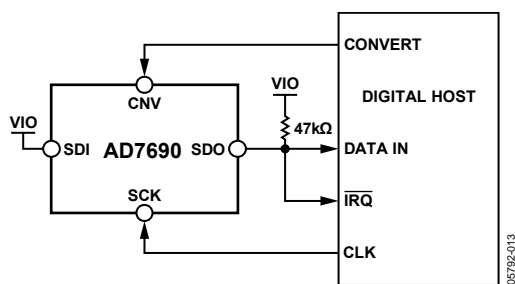
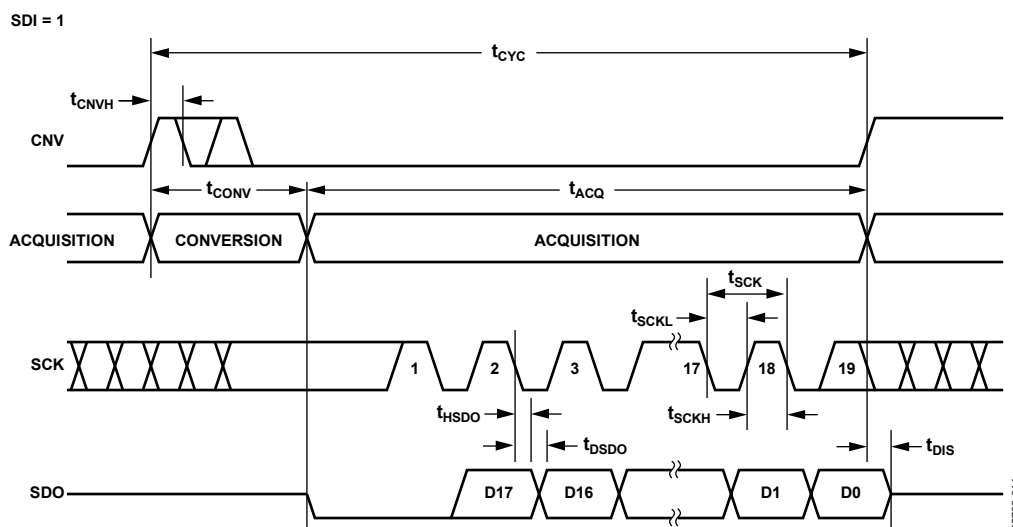

Figure 36. 3-Wire $\overline{\text{CS}}$ Mode with Busy Indicator Connection Diagram (SDI High)
Figure 37. 3-Wire $\overline{\text{CS}}$ Mode with Busy Indicator Serial Interface Timing (SDI High)
- In \overline{CS} mode if CNV or SDI is low when the ADC conversion ends (see Figure 37 and Figure 41).
The connection diagram is shown in Figure 36, and the corresponding timing is given in Figure 37.